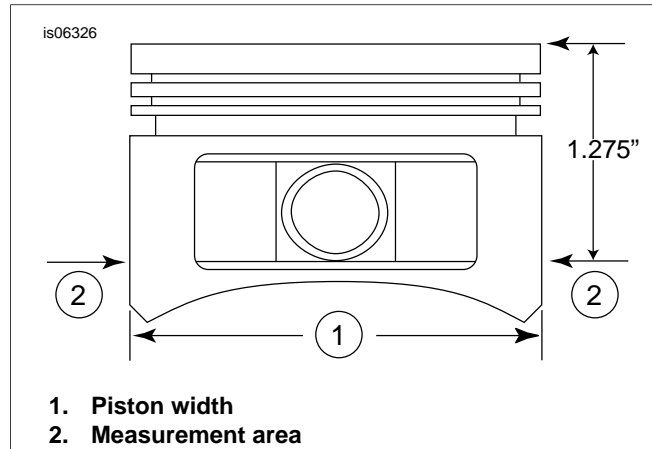

Figure 2. Piston Measurements
- See Figure 2. Measure the piston width (1), 90 degrees horizontally from both sides of the piston pin hole and 1.275 in. down from the deck surface (top) of the piston (2). See table 20 for piston-to-cylinder fit at this location.